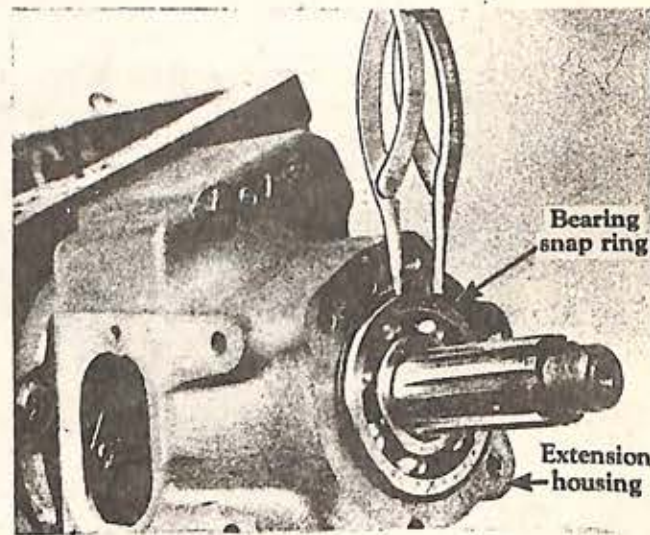

Fig. 41
5. Remove rear bearing snap ring, using snap ring pliers (Fig. 41). Remove the bearing, using a suitable puller.